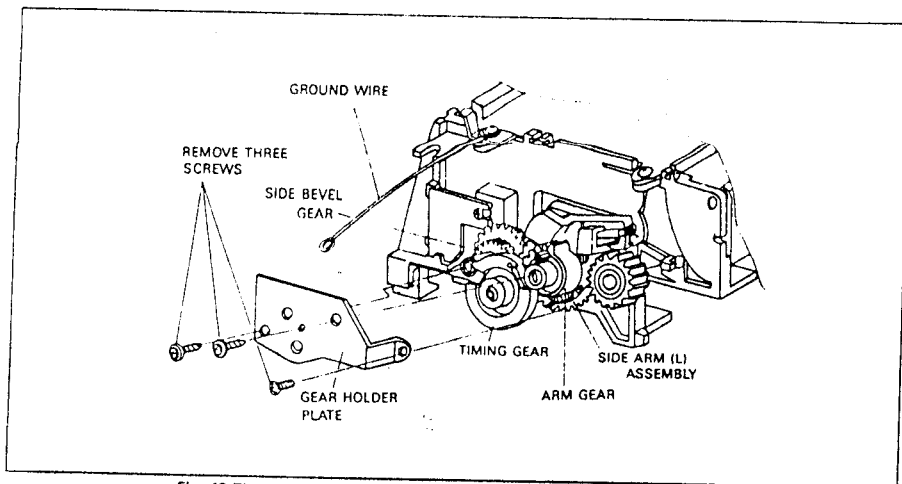

Fig. 18 Timing Gear/Side Arm (L) Assembly/Side Bevel Gear Removal
9. Remove the three screws of the gear holder plate holding each gear. (Fig. 18)
10. Remove the timing gear. (Fig. 18)
11. Remove the side arm (L) assembly. (Fig. 18)
12. Remove the side bevel gear. (Fig. 18)